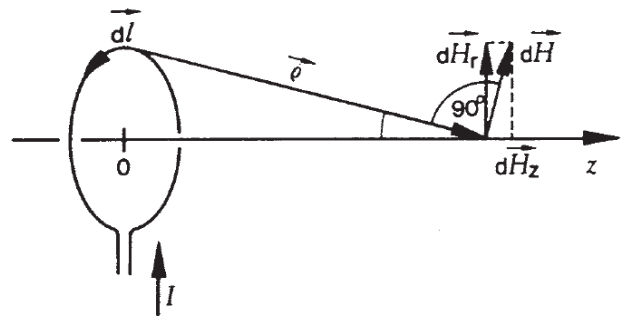

Fig. 6: Sketch to aid calculation of the field strength along the axis of a wire loop.
The field strength along the axis of a circular conductor can be calculated using equation (3). (Fig. 6).